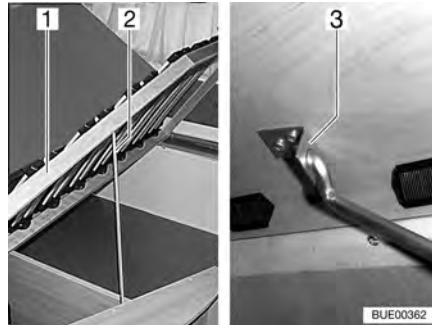

Fig. 71 Fixed bed
- Lift the slatted frame (Fig. 71,1), release the rail (Fig. 71,2) from its bracing and insert into the cavity in the holder (Fig. 71,3).
- Lift the slatted frame (Fig. 71,1), release the rail (Fig. 71,2) from the holder (Fig. 71,3) and clamp into the bracing.